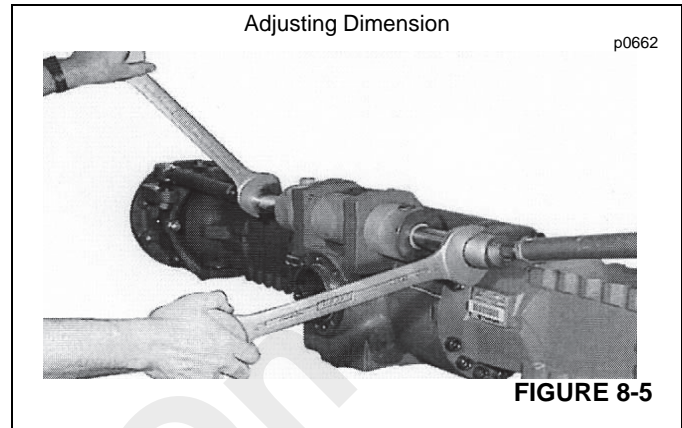

FIGURE 8-5
4. Using two wrenches on the guide rods (Figure 8-5), screw in or out the two tie rods equally until both dimensions are equal.